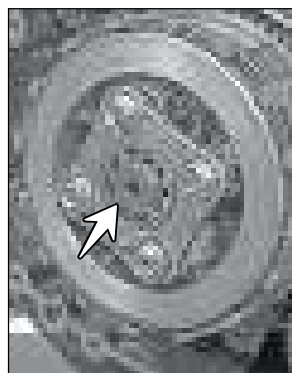

Fig. 3.205A
- Before assembling the cover clutch, ensure that adopter clutch release and ball are assembled on the clutch assembly. (Fig. 3.205A)